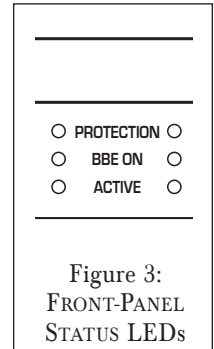

Figure 3:
- The front-panel PROTECTION LEDs (see *Figure 3*) will illuminate *yellow*.
The amplifier's ACTIVE LED will illuminate whenever any zone is active. Each zone's STATUS INDICATORS (see Figure 3) also contain an ACTIVE LED that will illuminate whenever that particular zone is ON.